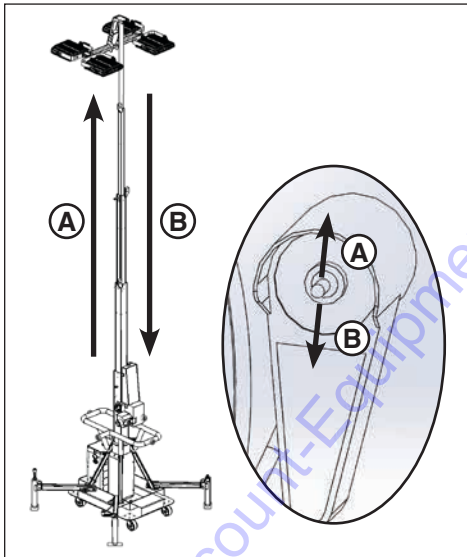

Figure 13
6. Move the remote tower control switch to the UP position until the tower is fully raised (A, Figure 13).
5. Move the remote tower control switch to the DOWN position until the tower is fully lowered (B, Figure 13).
Turn the Photocell / Timer switch (B, Figure 13) to the TIMER position.